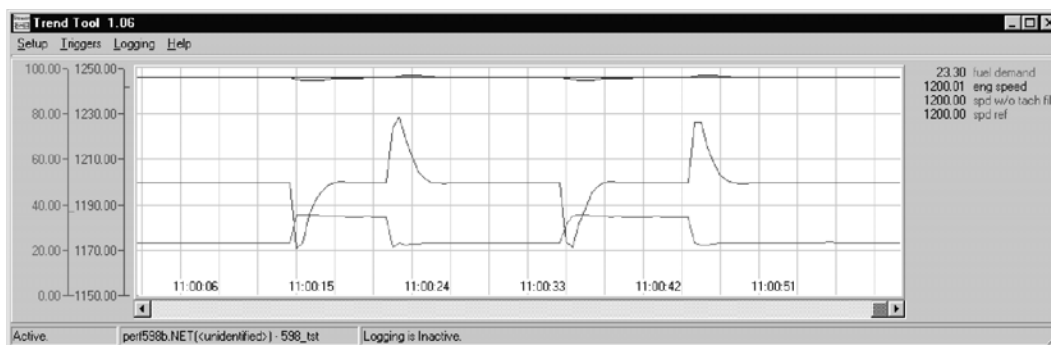

Figure 5-3. Trend Tool Trace Example 3
16. Initiate load steps on and off to confirm acceptable and stable response. Figure 5-3 shows the expected response. Note how the fuel demand increases/decreases quickly with negligible overshoot.